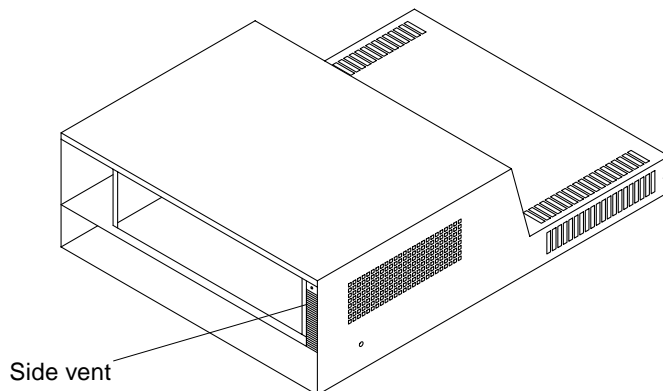

FIGURE 6-8 Controller Card Cage Side Vent
6. Remove the side vent from the old controller card cage (FIGURE 6-8).
11. Insert and secure the side vent into the slot on the right side of the controller card cage with the mounting screw (FIGURE 6-8).